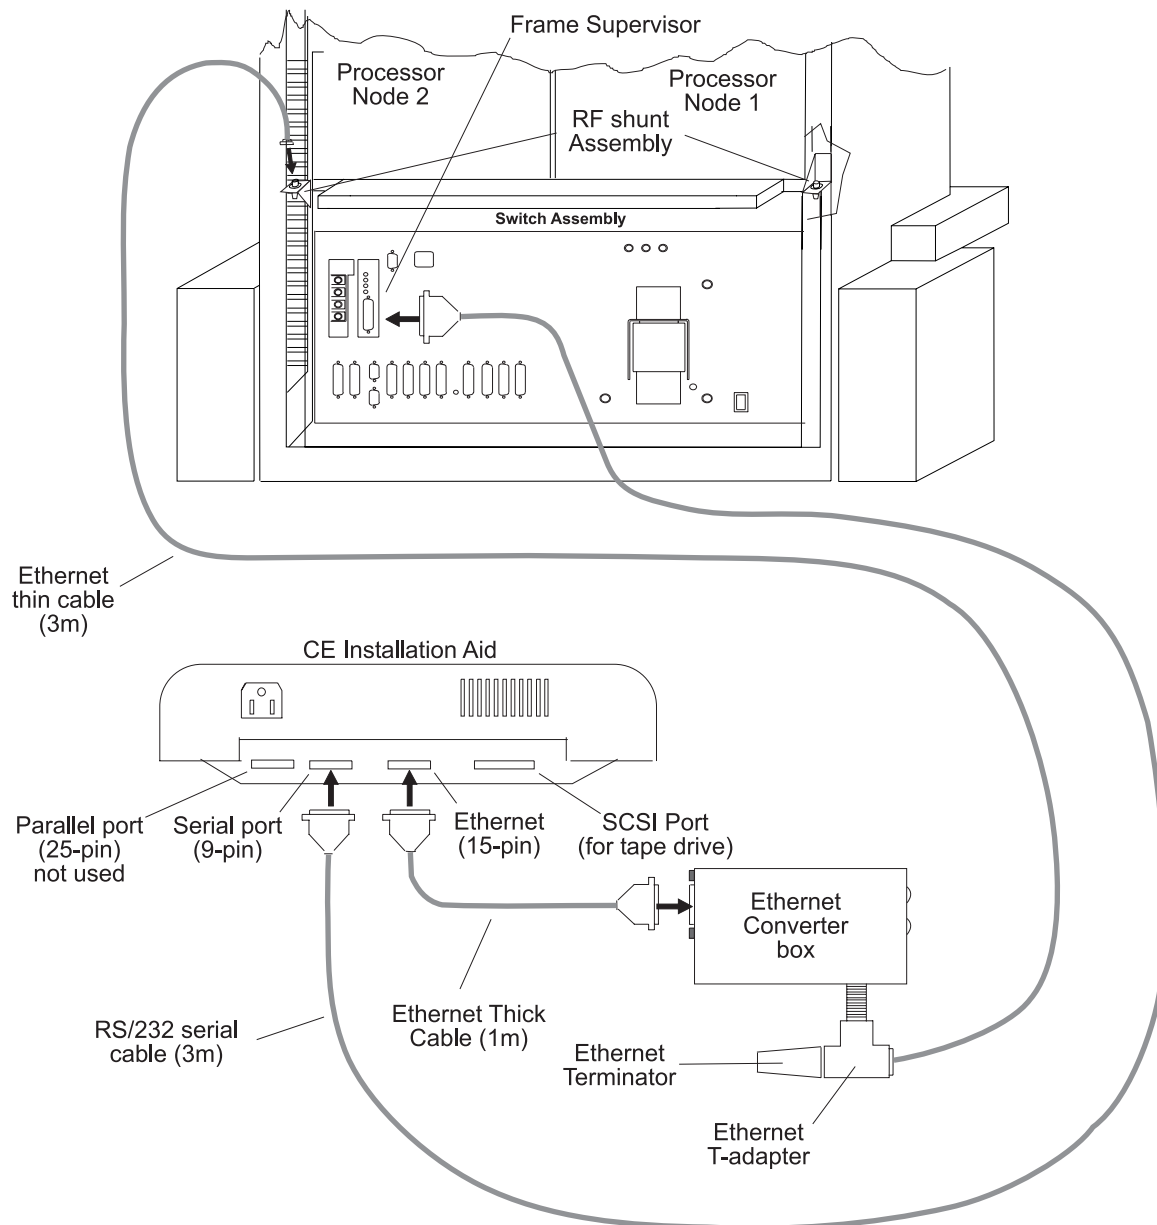

Figure 2-21. Connecting the CE Installation Aid (ACER) to a frame
- b. Refer to the ACER cabling diagram, Figure 2-21 on page 2-33.